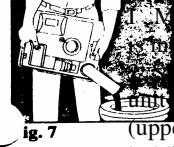

Fig. 7
3. Carry unit to permanent toilet facility. Remove cap. Press air relief valve with thumb while emptying unit (Fig. 7).